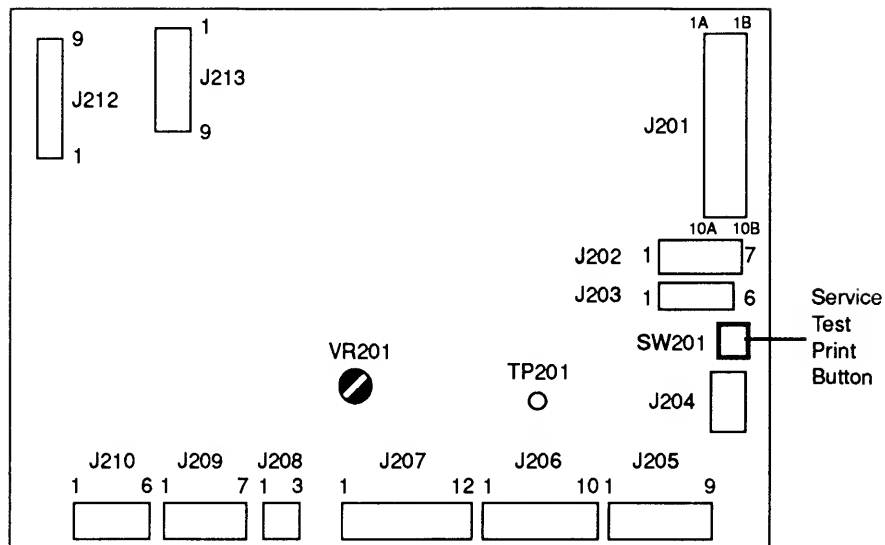

Figure 3-1 DC Controller PCB
2. Locate VR201 on the DC controller PCB (**Figure 3-1**).